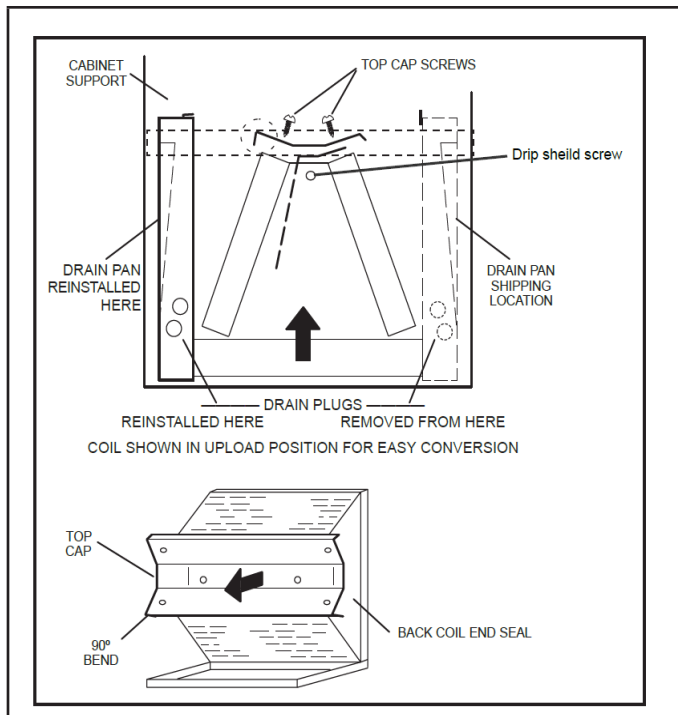

FIGURE 15. Field Modification for Left-Hand Discharge
- 7 - Reattach top cap to coil using the same screws. See FIGURE 15.